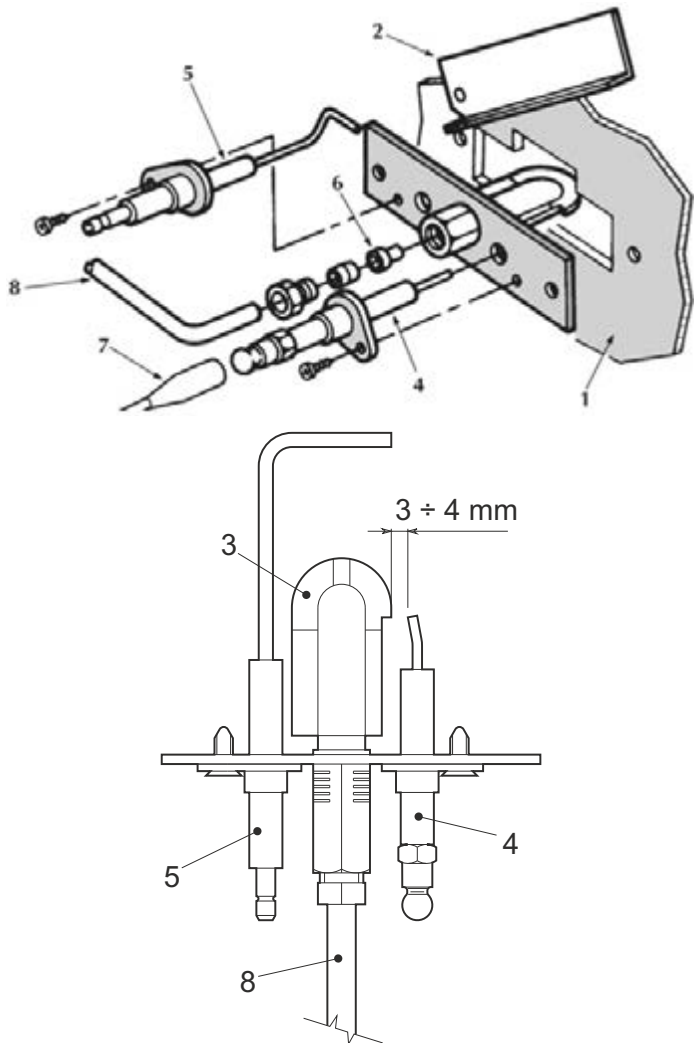

fig. 21 - Pilot burner
- The electrodes must be free of scale and properly positioned (see fig. 21).